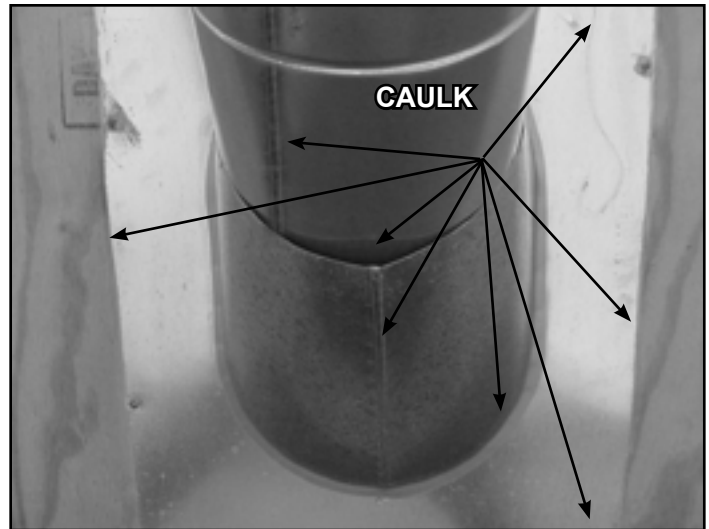

Figure 7.12
- Slide the roof flashing over the pipe sections extending through the roof as shown in Figure 7.12.